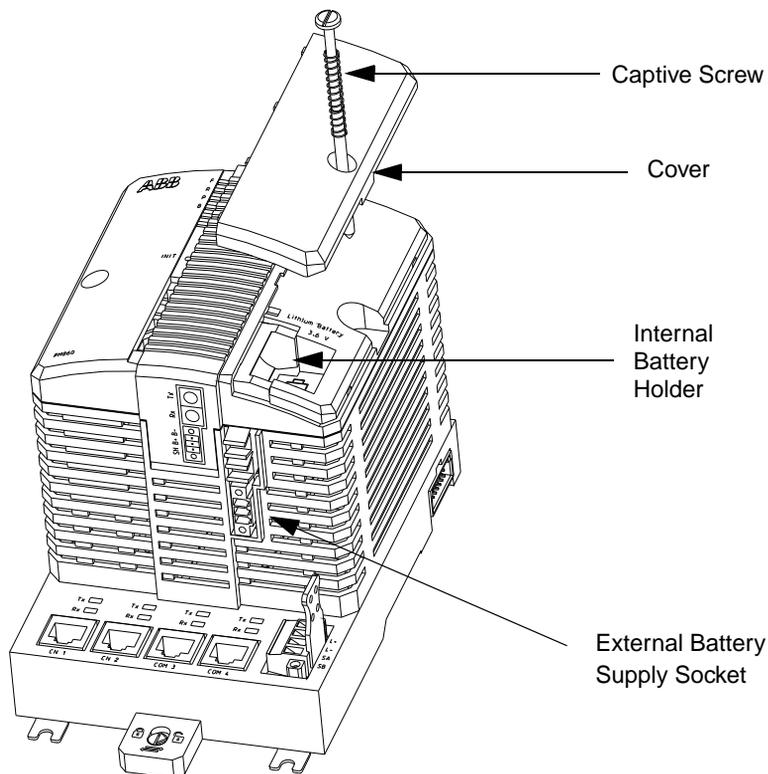

Figure 2.4: Back-up Battery - Connection
- using the internal battery (as shown in Figure 2.4 on page 30). The internal battery is not available in PM891.